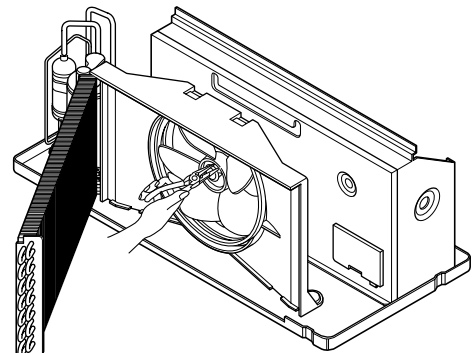

Figure 8
5. Remove the fan. (See Fig. 8)